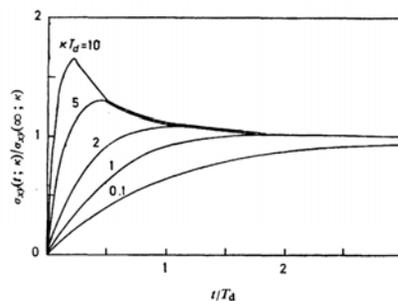

FIG. 6.—Shear stress when a shear flow is started at  $t = 0$  with shear rate  $\kappa$ .
FIG. 6.—Strain dependent part of the stress relaxation function for simple shear [eqn (6.7)]. Circles, observed values [after ref. (11)]; sample, polystyrene solution in diethyl phthalate; molecular weight,  $3 \times 10^6$ ; concentration,  $\square$  0.166 g cm $^{-3}$ ,  $\circ$  0.221 g cm $^{-3}$ ,  $\triangle$  0.275 g cm $^{-3}$ . Solid curve, eqn (6.8). Broken curve, eqn (7.4). In the ideal gaussian rubber  $f_{\infty}(\lambda)/\lambda$  is constant.